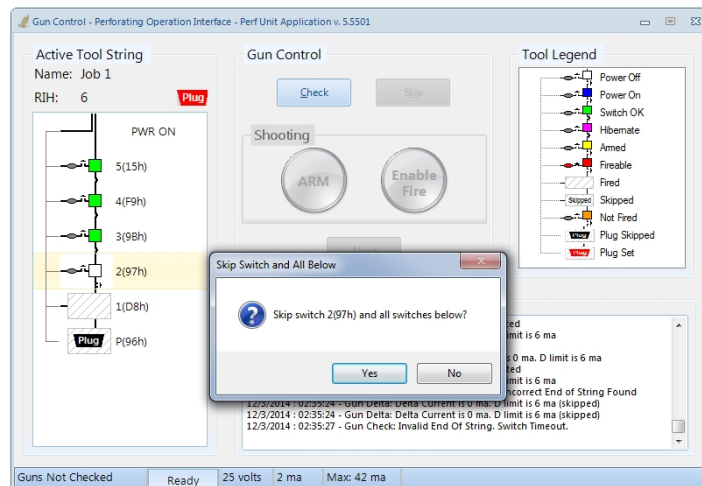

Figure 48
1. Using your mouse, right click on the disconnected switch (2(97h)) in the tool diagram and click "Yes" when the skip switch window appears as shown in Figure 48.